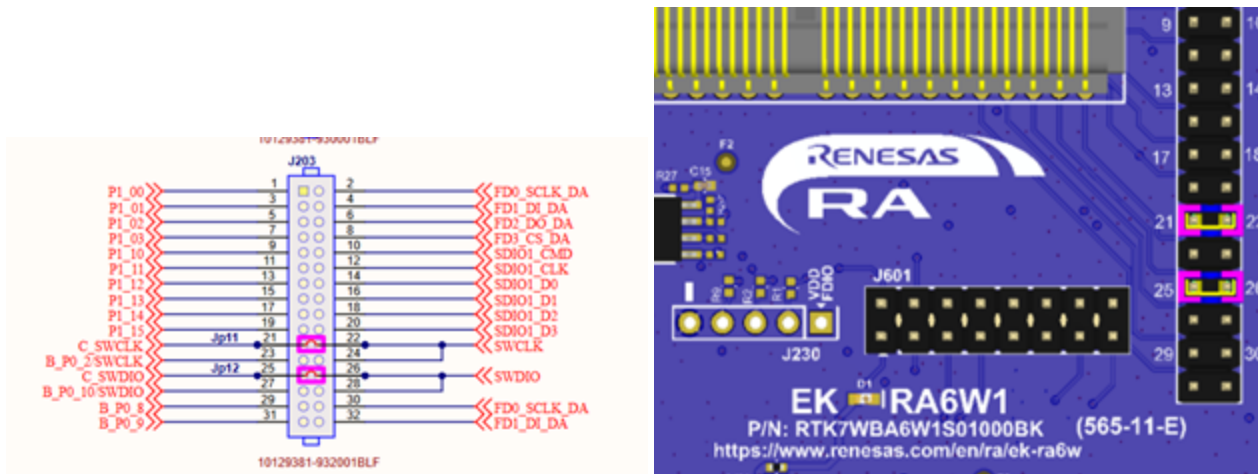

Figure 29. Default SWD connection to Wi-Fi subsection
- Connecting a PC to SWD signals SWCLK, SWDIO of the Wi-Fi subsection. Jumpers must be connected on J203 pins 21-23 (C_SWCLK to SWCLK) and J203 pins 25-26 (C_SWKDIO to SWDIO). This is the default configuration, see Figure 29.